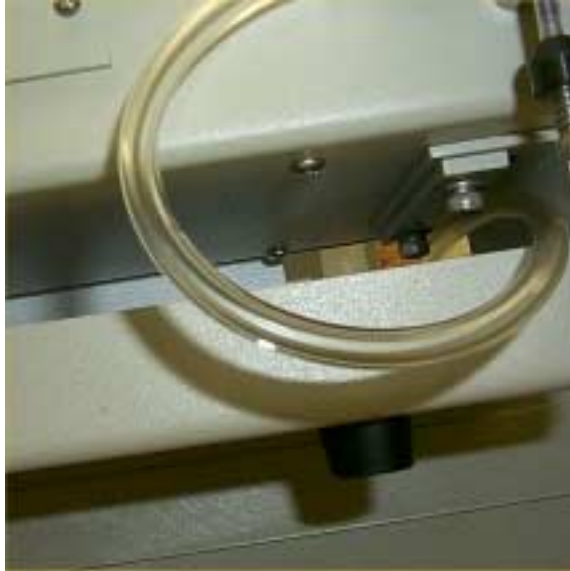

Figure 1-3
11. With the back of the autosampler off the edge of the table or cart. Locate the 4 cap screws located under the bottom of the autosampler. As shown in figure 1-3.(only one side is shown in picture)